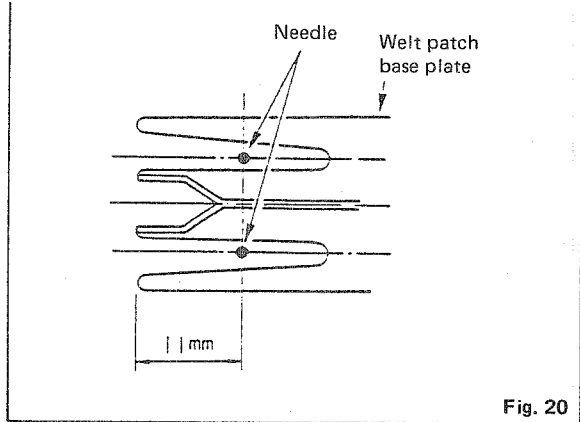

Fig. 20
5. If the distance given in Fig. 20 cannot be provided, loosen four screws ④ which fix the groove cam illustrated in Fig. 21 in position, and adjust the distance moving the groove cam in the direction of the arrow. After the groove cam is moved, be sure to check the clearance between the binder and the sewing table. If the predetermined clearance is not provided between them, adjust the clearance properly referring to "3) Horizontal of the binder" on page 28.